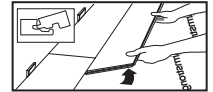

Figure 7
2. Place the first board in place by angling it up slightly, pushing forward and interlocking the side tongue. (Figure 7)